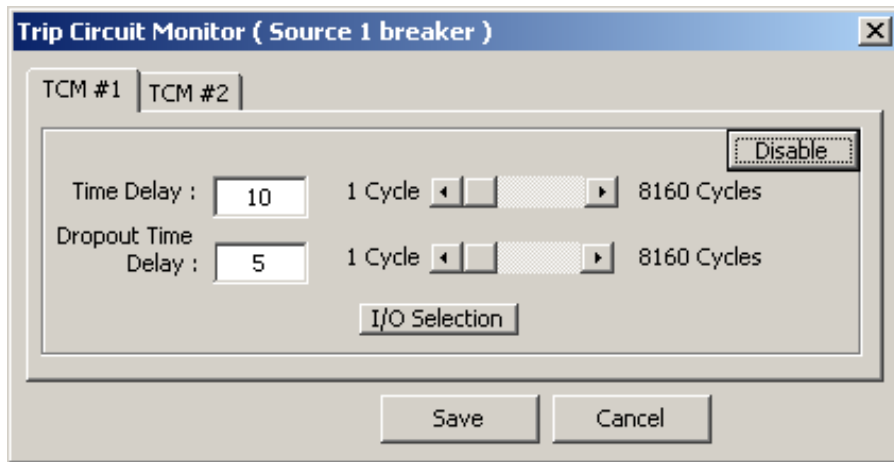

Figure 4-91 TCM (Trip Circuit Monitor) Function Dialog Screen
Figure 4-91 displays the settings for the TCM (Trip Circuit Monitor) function. The settings for the TCM #2 Trip Circuit Monitor are the same as the TCM #1.
**I/O Selection** — The I/O Selection button opens the TCM (Trip Circuit Monitor) I/O Selection Dialog Screen (Figure 4-91) that allows any input or the Fuse Loss (FL) function to be selected to block the TCM (Trip Circuit Monitor). The TCM #1(2) Function can also be used to activate a selected output when it times out.